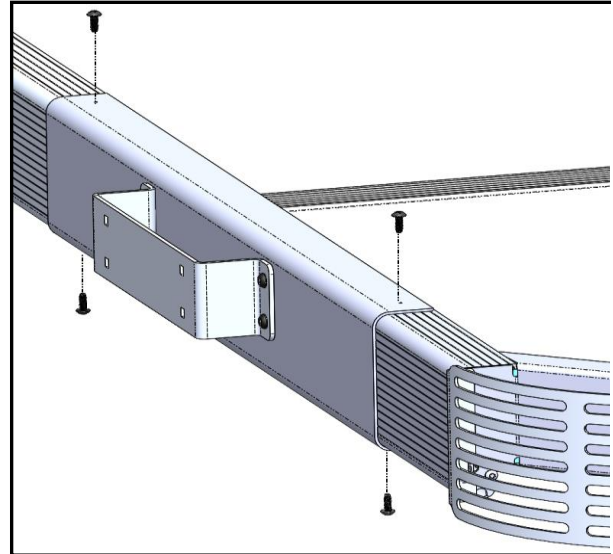

FIGURE 60: SCREW INSTALLATION ON THE SUPPORT BRACKET
7. **Install the painted Phillips #10-24 x 0.5" tapping screws at the bottom and top of the support bracket see Figure 60.**